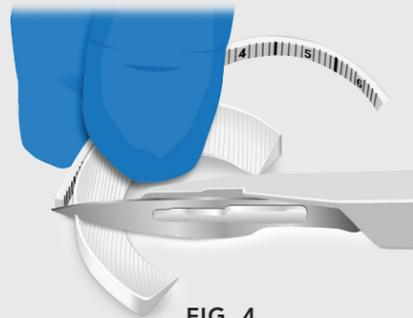

FIG. 4.
- Measure along the outer rim of the CMI Implant. **FIG 4**